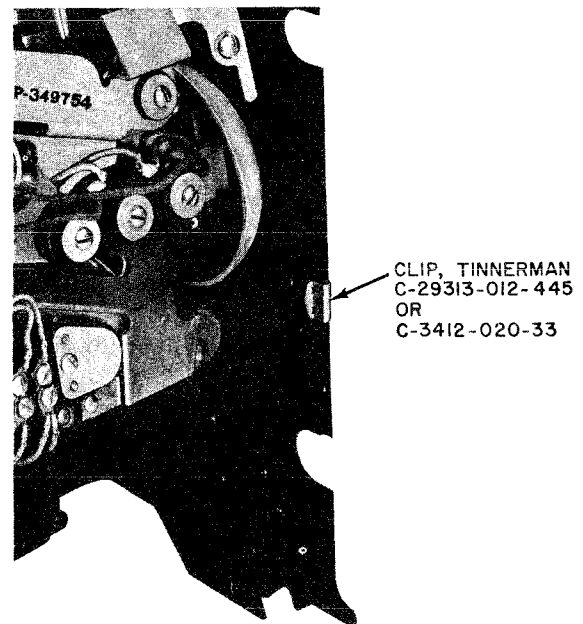

Fig. 5—Method of Grounding Upper Housing to Backplate
- Place U-shaped spring clip on left edge of upper housing so as to contact housing contact spring (Fig. 5).